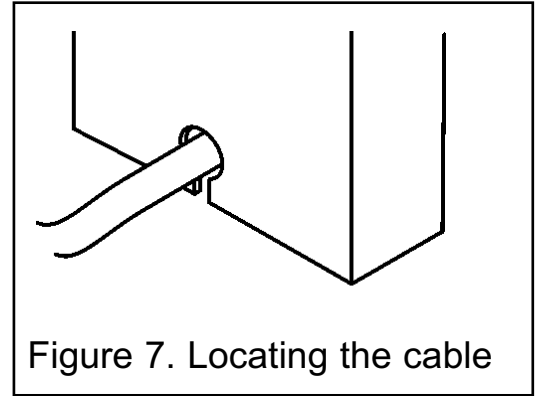

Figure 7. Locating the cable
3. Position the supply cable in the spacer frame slot (See figure 7).